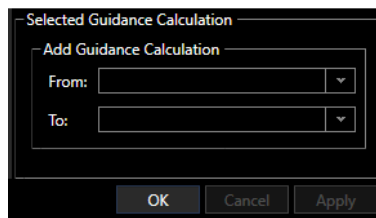

FIGURE 12-5 ADD GUIDANCE CALCULATION DIALOG
2. The Add Guidance Calculation Dialog is displayed (Figure 12-5)